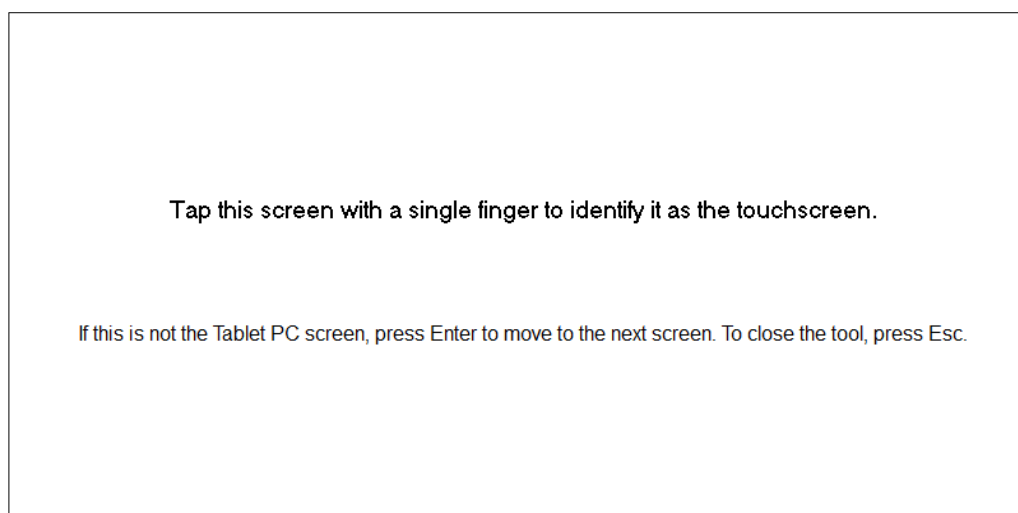

Figure 29: Choosing the appropriate screen to be paired with the touchscreen interface.
- 5 Assign a screen to a touchscreen interface (see Fig. 29).